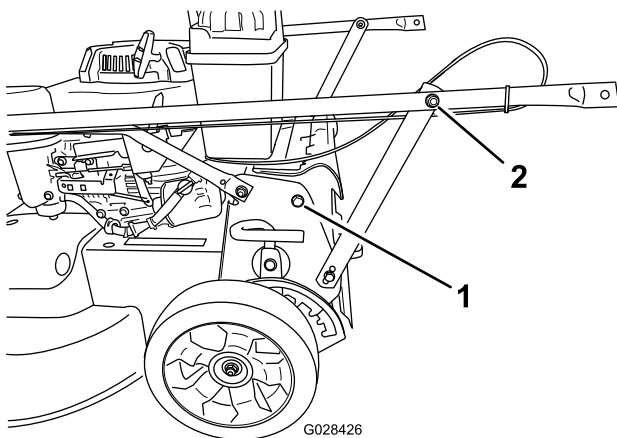

Figure 3
1. Remove the 2 bolts from the machine frame in the location shown in Figure 3.